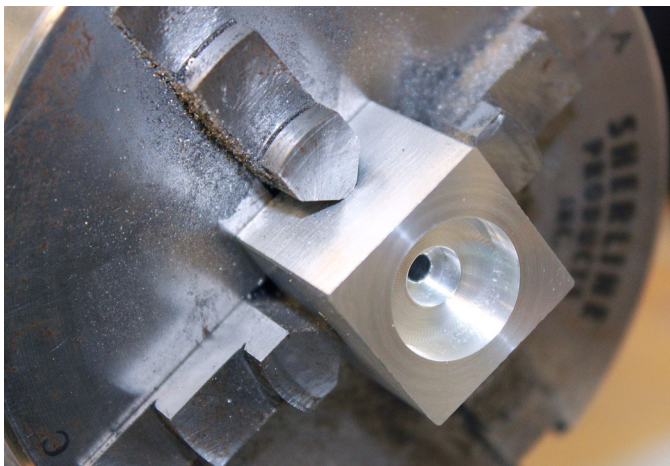

FIGURE 5—The second hole is bored to .540" diameter and .163" deep.
3. Rough and finish bore the .540" diameter x .163" deep on all sides. (See Figure 5.)